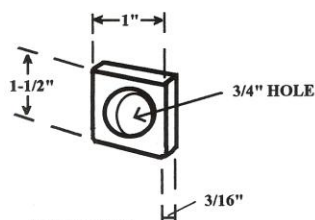
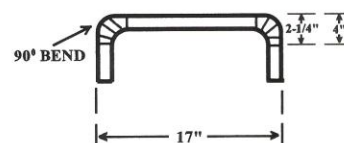

FIGURE 14
FIGURE 15
8. MAKE 2 STEERING SUPPORT BRACKETS AS SHOWN IN FIGURE 14 BELOW. ALSO MAKE 2 SIDE RESTS OUT OF 3/4" TUBING AS SHOWN IN FIGURE 15 BELOW.
9. WELD THE MAIN FRAME MEMBERS AS SHOWN BELOW IN FIGURE 16. TILT THE FRONT SPINDLE SUPPORT BRACKETS BACK AT THE TOP FIVE DEGREES FOR CASTOR. SEE DETAIL 'A'. WELD ON THE FRONT AND REAR HOOPS AS SHOWN IN STEPS 5 AND 6. ALSO WELD THE STEERING SUPPORT BRACKETS SHOWN IN STEP 8 (FIGURE 14) TO THE FRAME AS SHOWN IN FIGURE 16. NEXT, WELD ON THE 5/8" X 5-1/2" BOLTS ON THE REAR FRAME TUBE. NOW WELD ON THE SIDE REST AS SHOWN.